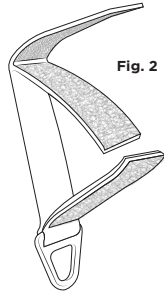

Fig. 2
1. Open up the sandwiched hook & loop of the Anchor Attachment (Fig. 2)